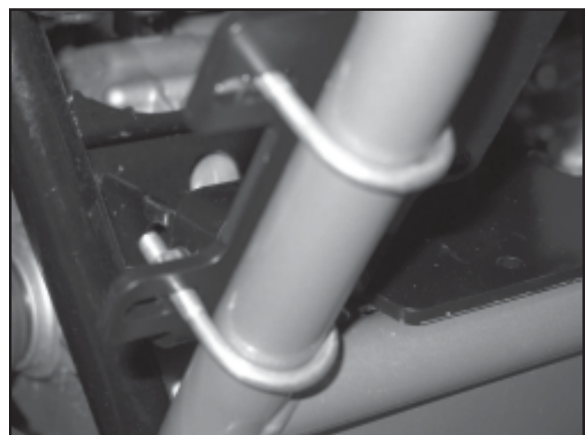

Figure 6 Attach Mounting Plate, Front
3. Attach the front of the mounting plate using four 1/4-20 u-bolts (B1), eight lock washers (B2), and eight 1/4-20 hex nuts (B3), see figure 6.